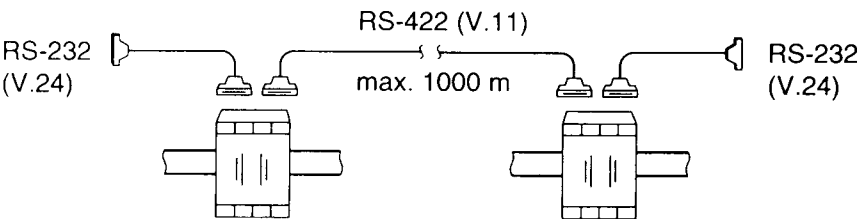

Fig.1b)
1.2. Transmission over Long Distances (Fig. 1b)